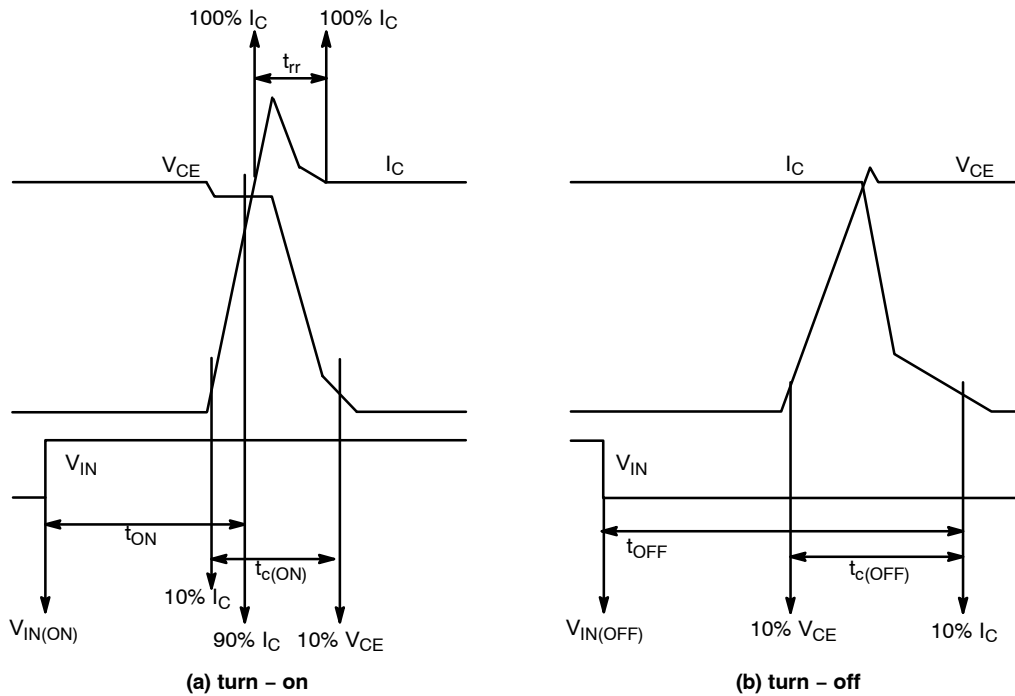

Figure 3. Switching Time Definition
6. t_{ON} and t_{OFF} include the propagation delay time of the internal drive IC. $t_{C(ON)}$ and $t_{C(OFF)}$ are the switching time of IGBT itself under the given gate driving condition internally. For the detailed information see Figure 3.